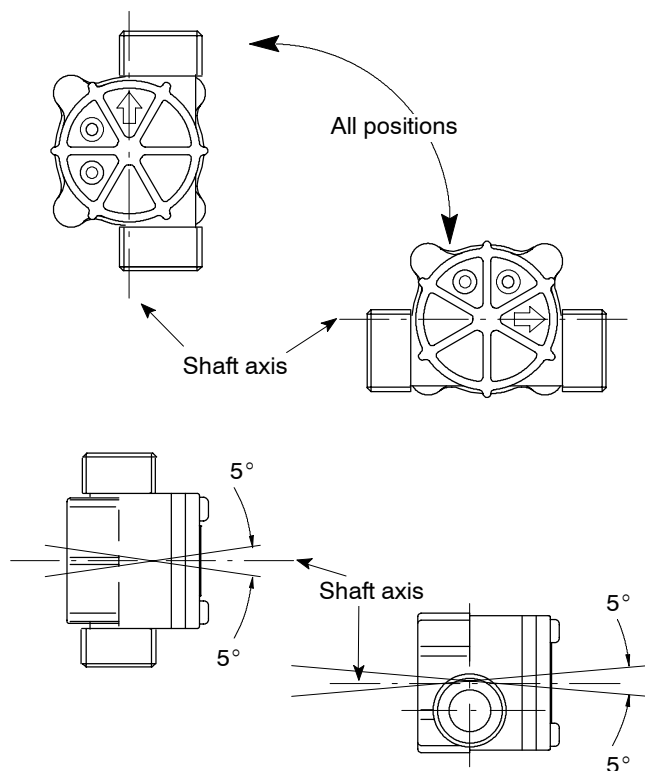

Fig. 5. Mounting positions
- The shaft of the rotor shall be horizontal $\pm 5^\circ$. See fig. 5.